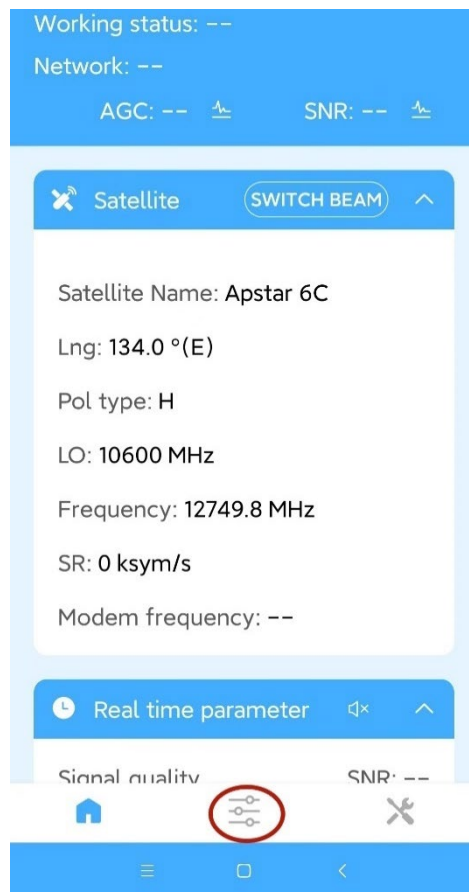

**Figure 7-8**
6. After selecting DVB mode, click "Next" to enter the Home screen, as shown in Figure 7-8 and Figure 7-9.